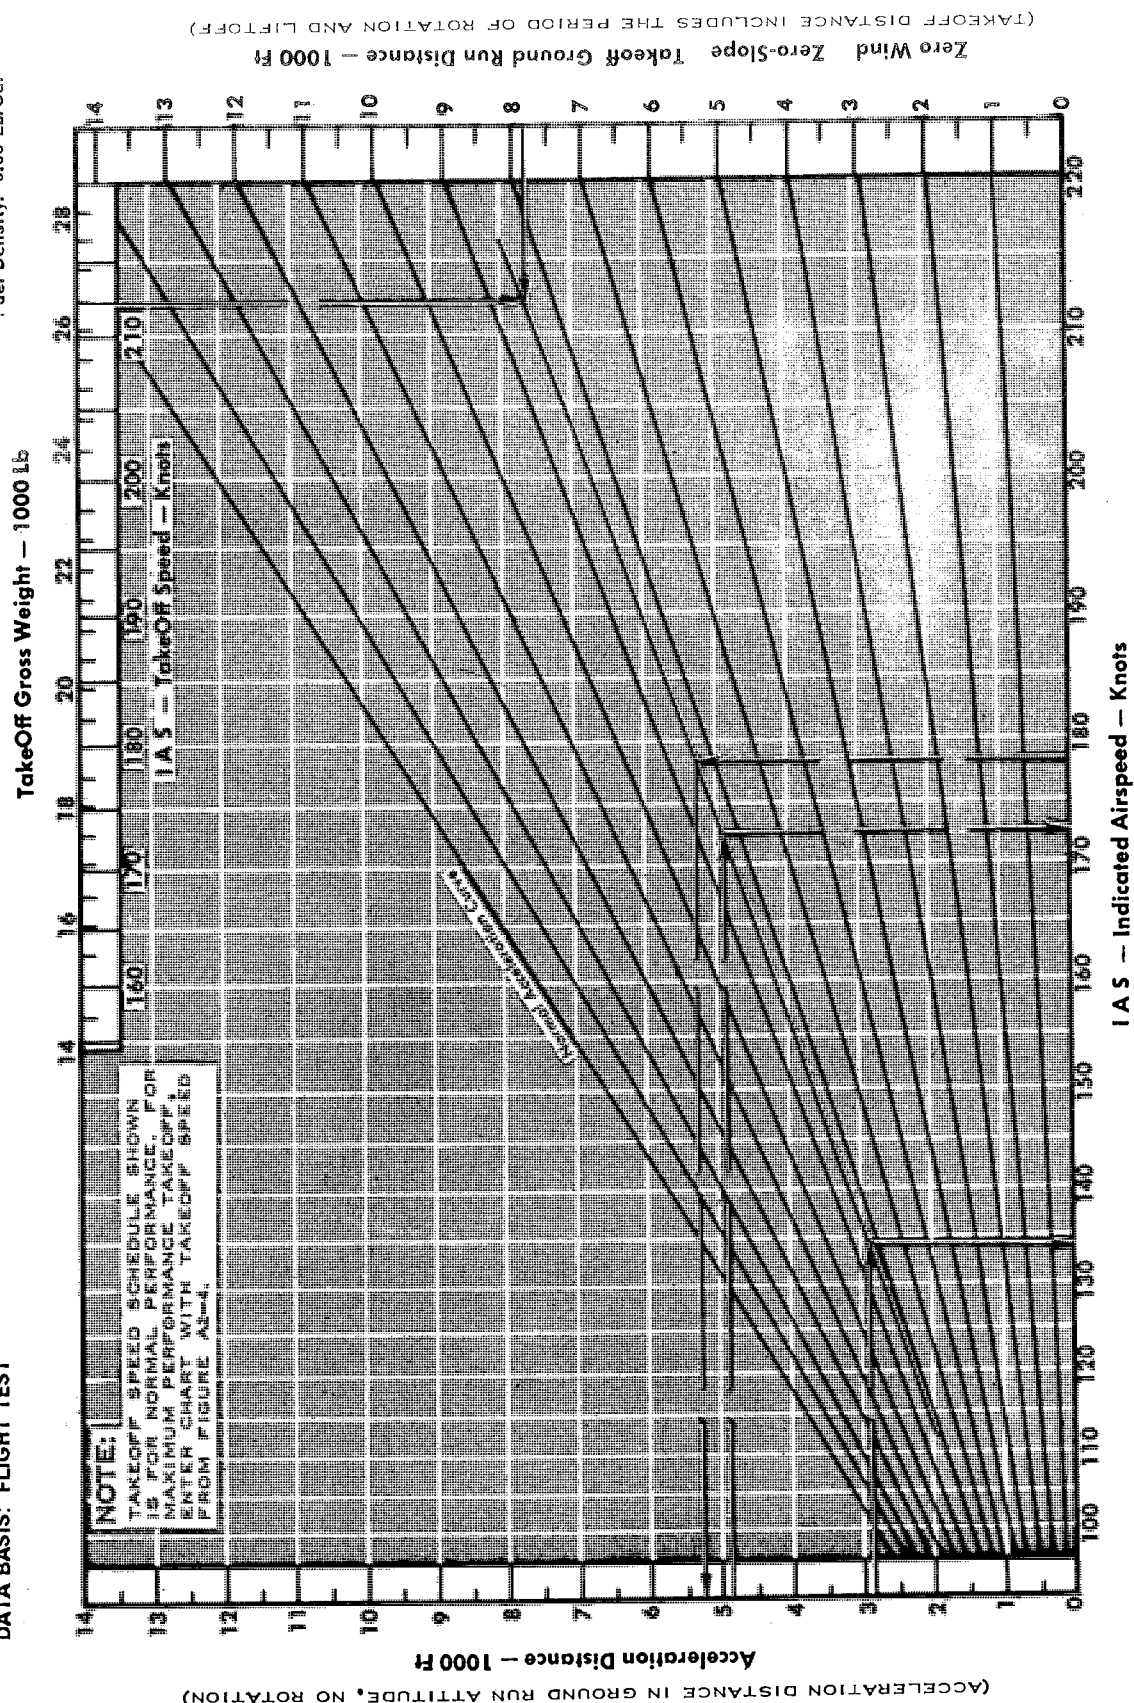

Figure A2-8
- f. Enter Figure A2-8 at the takeoff gross weight 25533 lb and zero wind, zero slope takeoff ground run distance (7300 ft) to establish the normal acceleration guide line.
- g. Still using Figure A2-8, enter (from the bottom) at the refusal speed (182 knots). At the intersection with the normal acceleration guide line read the refusal distance, 5500 ft on the acceleration distance scale.
- i. Using Figure A2-8, enter the acceleration distance scale at the go, no-go distance (4875 ft). At the intersection with the normal acceleration guide line, read the normal speed of 172 knots at the go, go-no distance.
- m. Enter Figure A2-8 with the acceleration check distance, 2875 ft. At the intersection with the normal acceleration guide line read the normal speed at the acceleration marker (zero wind) of 134 knots.